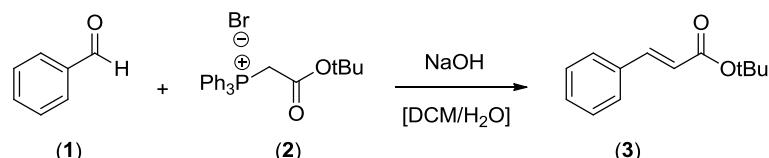

Figure 1: Two-phase Wittig reaction scheme
In conventional Wittig reactions, the phosphonium ylide reagent is prepared in batch by treatment of the Wittig salt with a base. However, when using substrates which can withstand alkaline conditions, the ylide can be prepared *in situ*. In this so-called two-phase Wittig reaction, an aldehyde (1) and a Wittig salt (2) are introduced into the microreactor, where they react to form the corresponding unsaturated Wittig product (3) by treatment with aqueous sodium hydroxide. The Wittig reaction is an example of a very selective reaction, producing no side products. However, the formed double bond can take two configurations: the *cis* (Z) and the *trans* (E) form. The latter is shown in Figure 1.